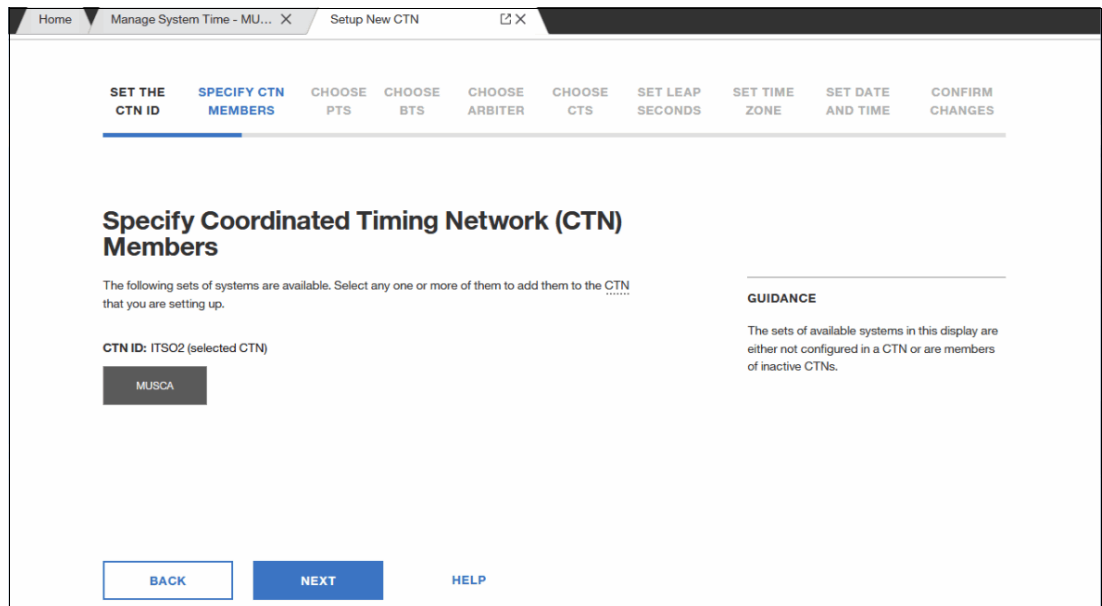

Figure 8-35 Specify Coordinated Timing Network (CTN) members
4. The Specify Coordinated Timing Network (CTN) members window opens. Select the CPC name (only CPCs that do not belong to a CTN are shown). In this example, only one CPC (CETUS) is displayed. Select the CPC and click **NEXT** to continue (see Figure 8-35).